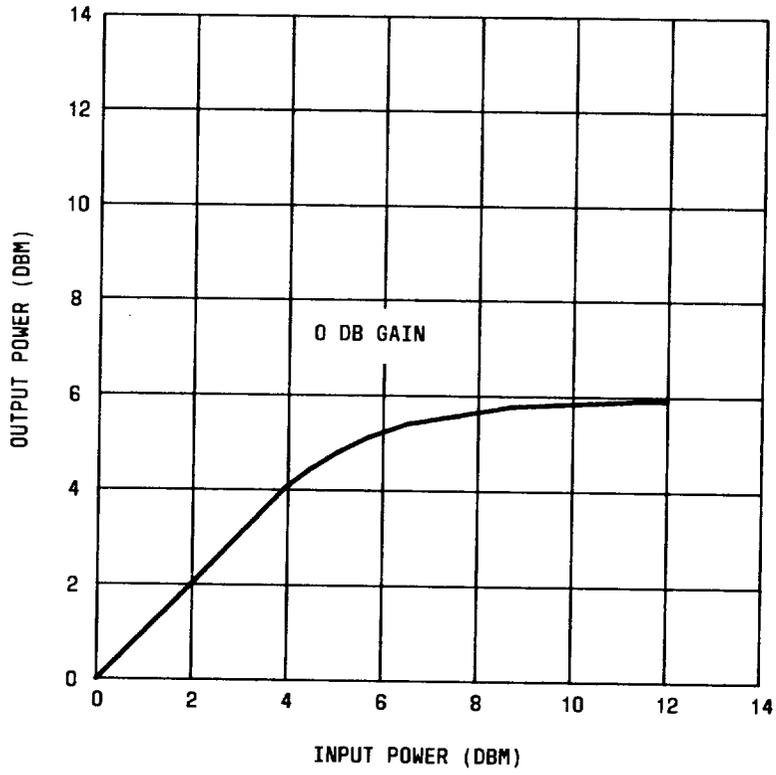

Fig. 5—Output Power Characteristics Curve
3.04 Figure 5 shows the output power capability of the J99343GR CFU. The output power is determined by input power and CFU gain. Power limiting occurs in this unit at about 6 dBm.